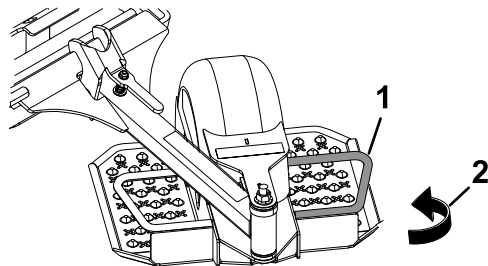

Figure 7
2. Slowly and carefully rotate the StandOn until it contacts the drawbar (see Figure 7).